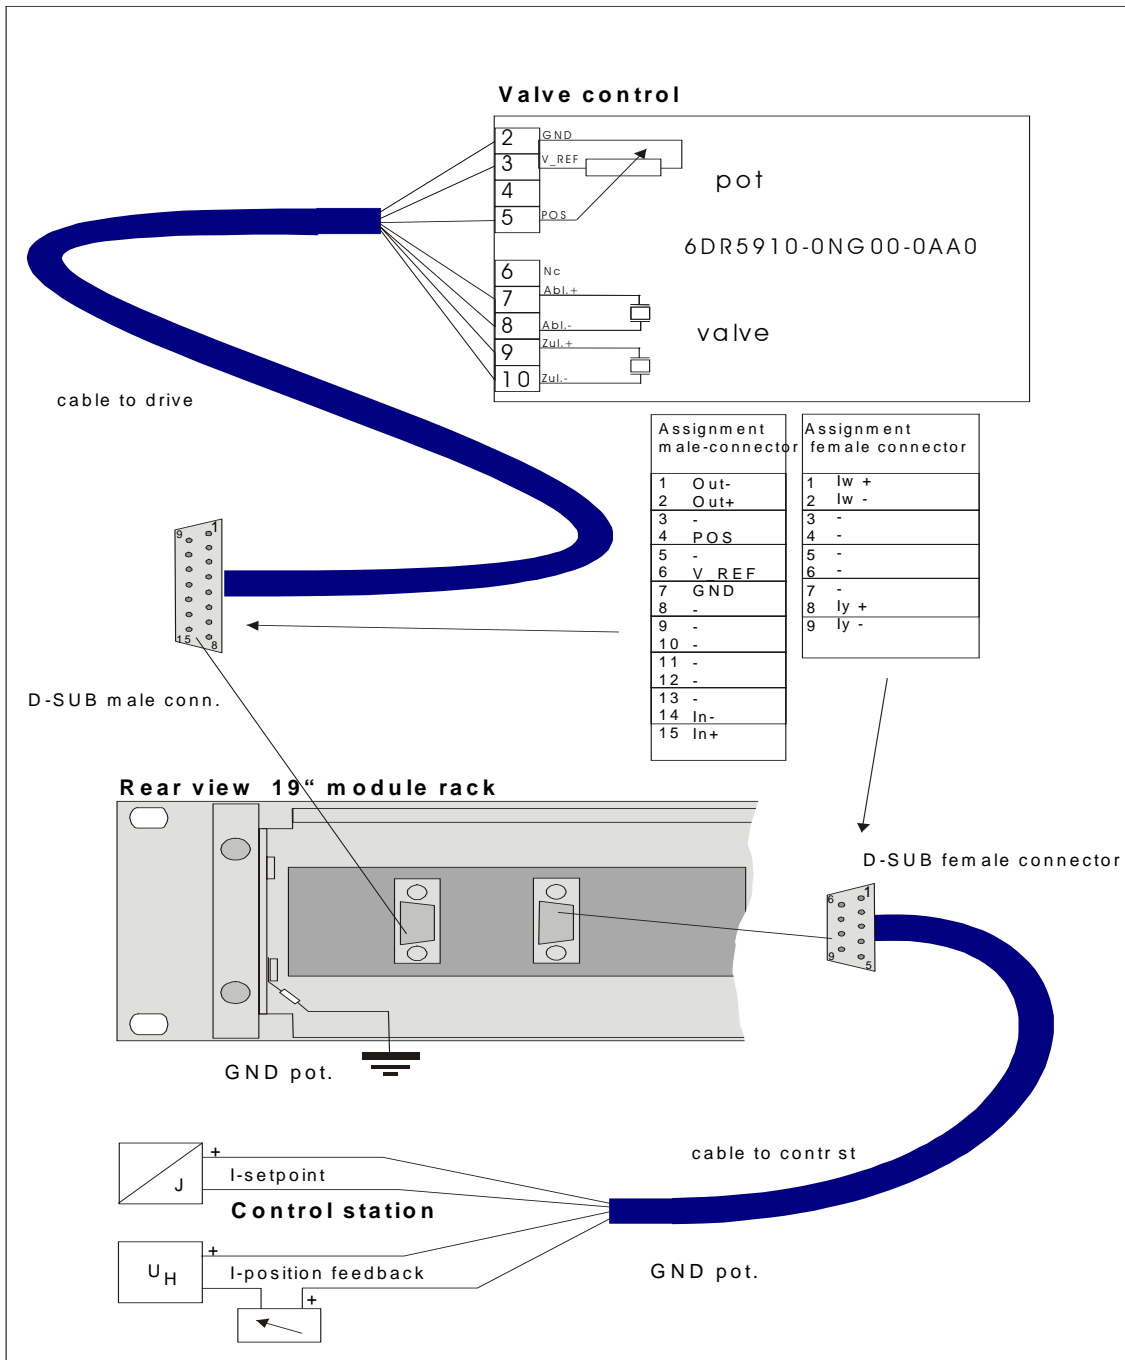

Fig. 3-6 Electrical connection
5. Connect the wires as shown in figure 3-6, page 18